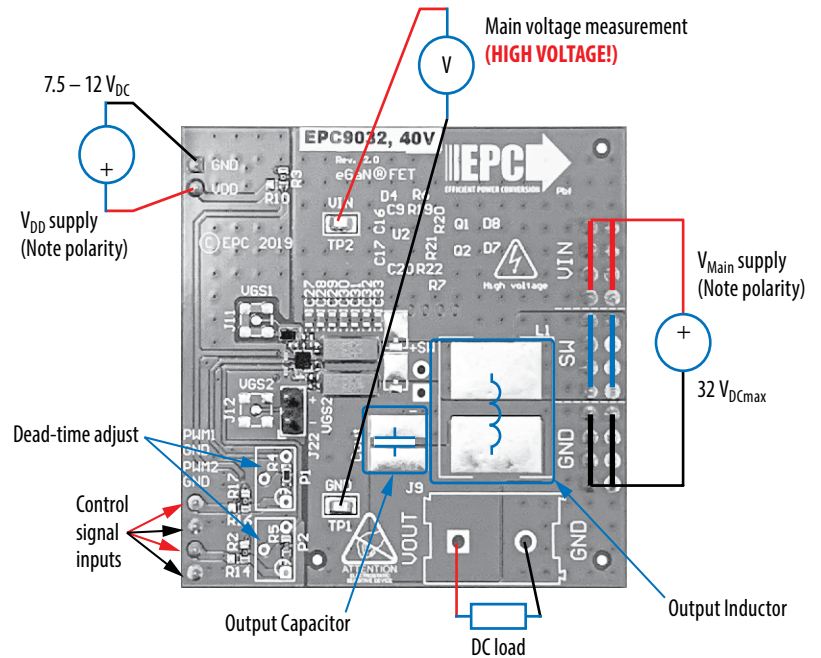
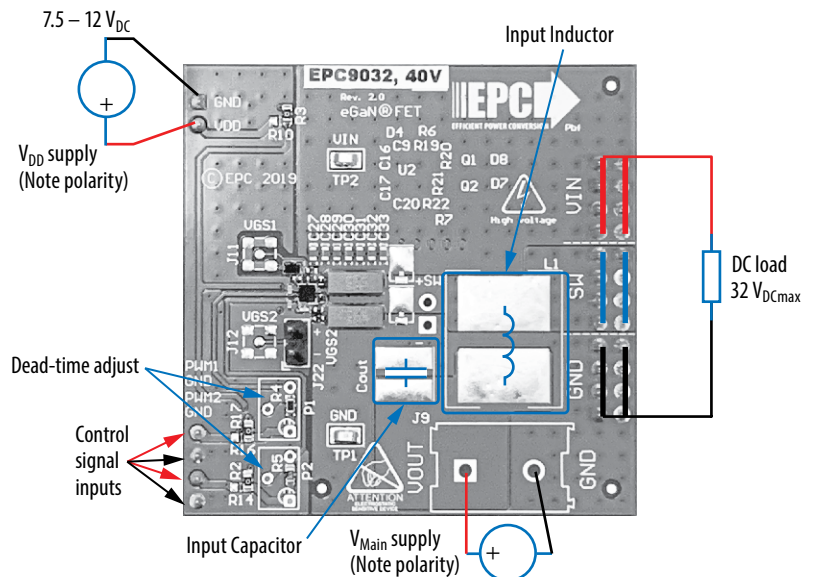

Figure 2: Buck configuration
Figure 3: Boost configuration
The half bridge development board EPC9032 is easy to set up as buck or boost converter. Refer to figure 2 for buck converter configuration and measurement setup, and figure 3 for boost converter setup, and follow the procedure below:
2. With power off, connect the switch node (SW) of the half bridge to your circuit as required (half bridge configuration). Or use the provided pads for inductor (L_1) and output capacitors (C_{out}), as shown in figure 2 with a DC load connected across V_{OUT} and GND.
1. The inductor (L_1) and input capacitors (labeled as C_{out}) can either be soldered onto the board, as shown in figure 3, or provided off board. Anti-parallel diodes can also be installed using the additional pads on the right side of the EPC2024 FETs.